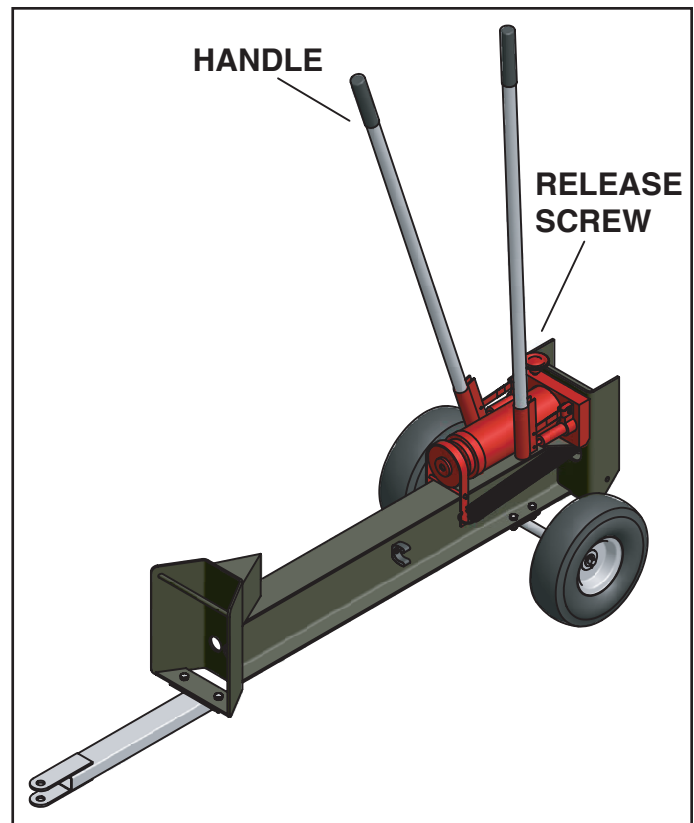

FIGURE 3
5. It is recommended you operate the Log Splitter in the following manner. Stand behind the log splitter and grip one Handle in each hand and pump the Handles in a back-and-forth motion with one Handle fully forward and one fully rearward as shown in figure 3.